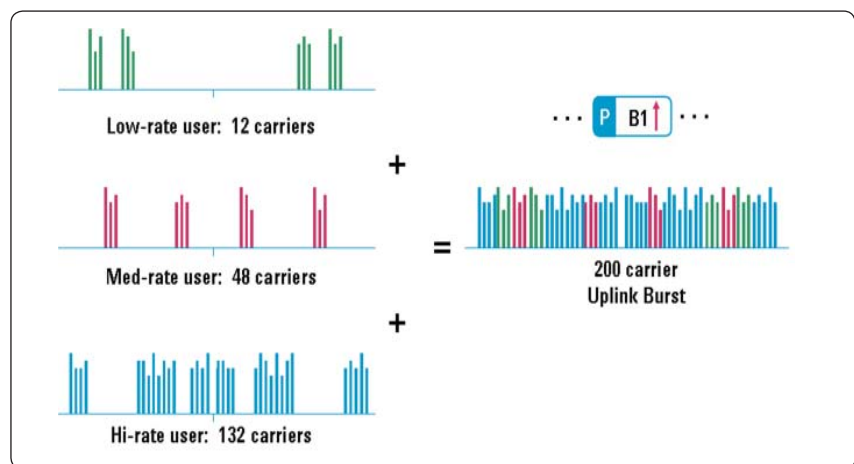

Figure 4. Uplink Subchannelization
Subchannelization is an optional capability that can be supported by subscriber and Base Stations (BS). Figure 4 shows the Uplink subchannelization. One subchannel contains 12 carriers. The OFDM WiMAX has 192 active data carriers, so there are 16 subchannels in total. They are allocated in various combinations for the creation of 31 different configurations to be assigned to a user. (Details on subchannelization can be found in [1], Table 213 for OFDM.)